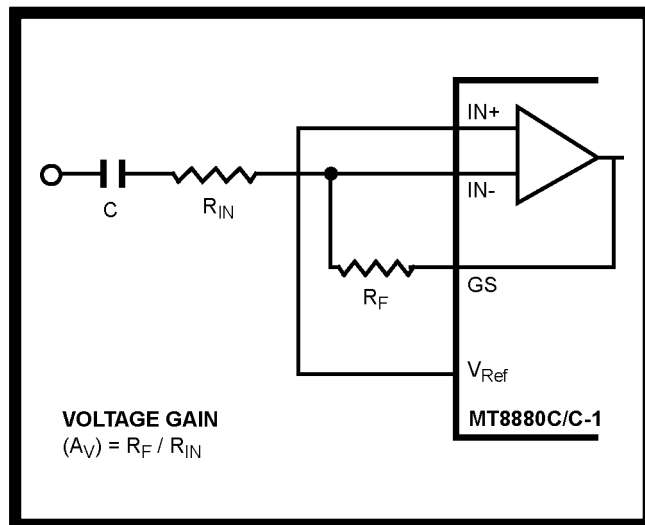

Figure 3 - Single-Ended Input Configuration
The input arrangement of the MT8880C/C-1 provides a differential-input operational amplifier as well as a bias source (V_{Ref}) which is used to bias the inputs at $V_{DD}/2$. Provision is made for connection of a feedback resistor to the op-amp output (GS) for adjustment of gain. In a single-ended configuration, the input pins are connected as shown in Figure 3.